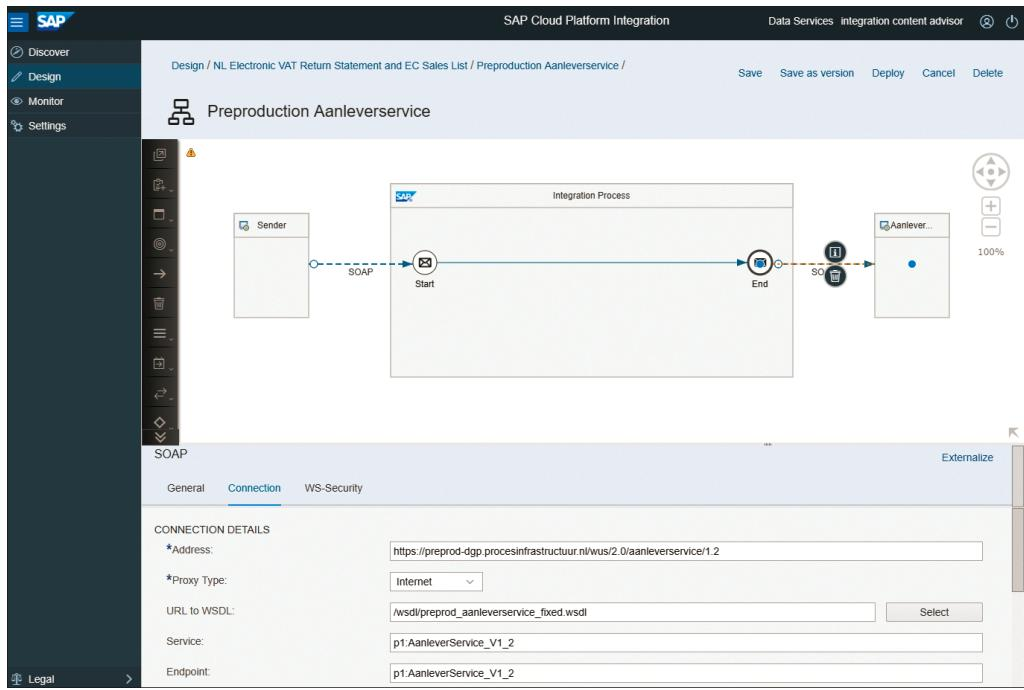

Figure 3.17 Adding Different Items to an Existing Integration Flow Template
5. For most integration flows, connectivity details on the sender and receiver side need to be changed. Figure 3.17 for instance, shows that the SOAP receiver connection details can be filled in by selecting the respective connector and specifying the properties in the **Connection** tab.
6. After you've made the desired changes, you can click on the **Save** button on the top-right corner of the page (see Figure 3.17). Alternatively, click **Save as version** to save a new version of the integration flow. You're then asked to provide a comment for the new version. Note that the version number is also automatically incremented.
7. After saving your work in the previous step, you can now choose to deploy the integration flow on the tenant by using the **Deploy** option (see Figure 3.17). If you attempt to deploy without saving, a popup message will warn you that there are unsaved changes. You'll also be asked if you want to save and deploy at the same time.